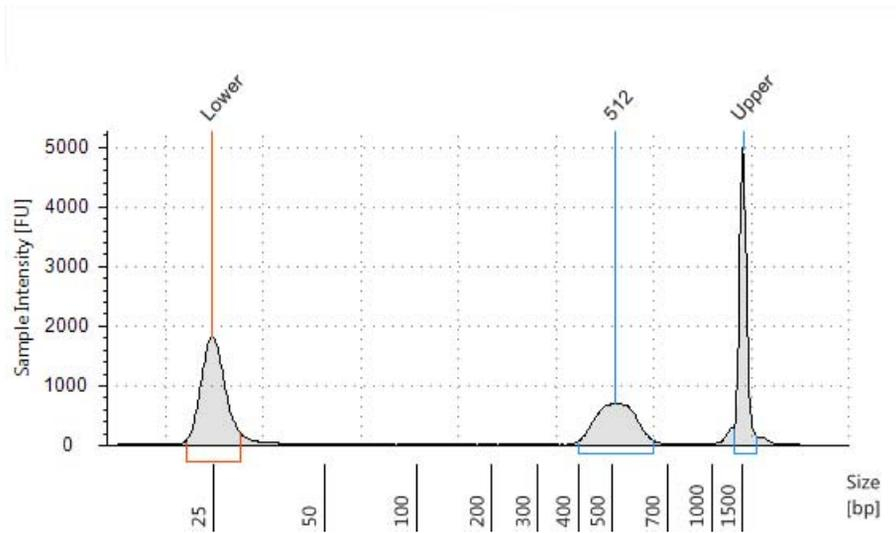

Figure 2 Analysis of the DNA size profile for a representative OnePGT library using the 4200 TapeStation.
- Analyze the distribution of fragments in the library using the electropherogram. A high-quality sample electropherogram is shown in Figure 2 on page 40.